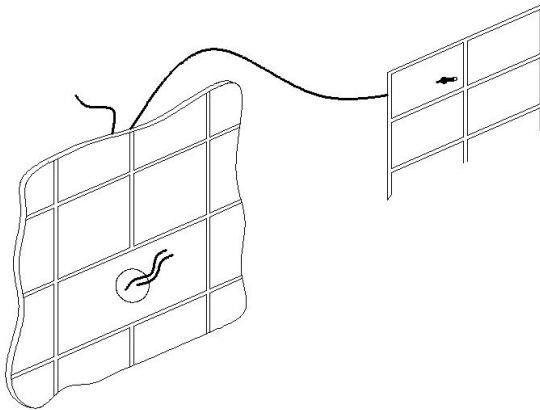

Fig.3
2. Pre-buried steam generator control line wire and temperature sensor connection line (Fig.3).